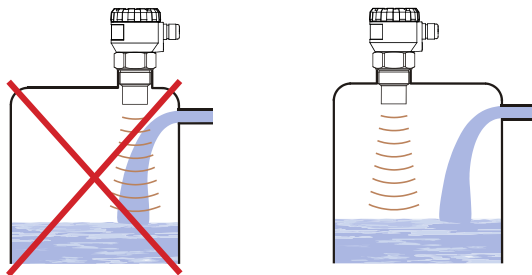

Fig. 8: Level meter installation outside the influence of filling
- Do not install the level meter in or above the **filling** point (Fig. 8).